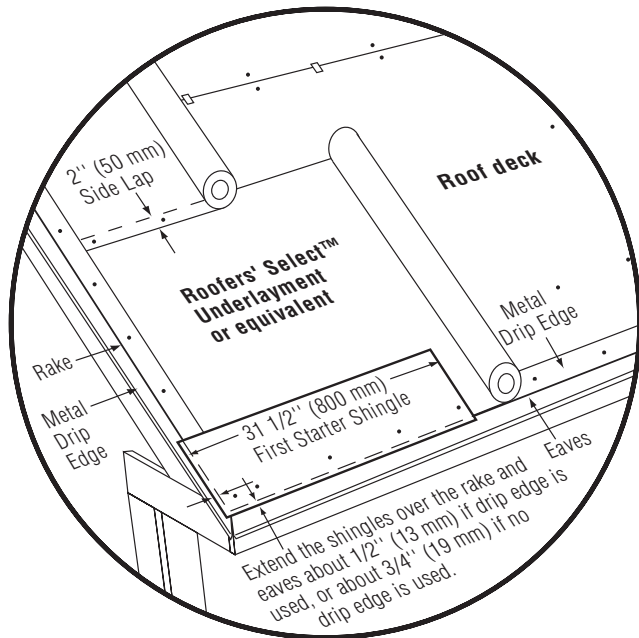

Figure 17-8: Standard slope underlayment and starter drip edge details.
- For all three shingle styles, cut $4\frac{1}{2}$ " off the length of the left side of the first starter strip and apply at the lower left corner of the roof. This $31\frac{1}{2}$ " starter strip should overhang the rakes and eaves $\frac{1}{2}$ " when drip edge is used or $\frac{3}{4}$ " when no drip edge is used. Continue with full 36" lengths of starter strips all along the eaves (Figure 17-8).